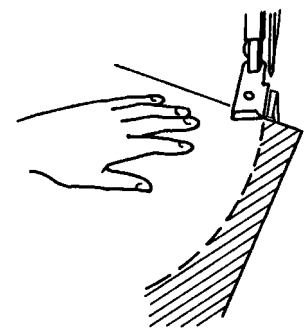

Figure 27.
- **Outside.** Sew slowly. As the fabric approaches the curved area, gently shift the fabric into and toward the right edge of the presser foot to keep the stitching line straight (Figure 27). If the curve is sharp or tight, stop stitching and shift the fabric. Resume stitching, continuing the process until the area is complete.